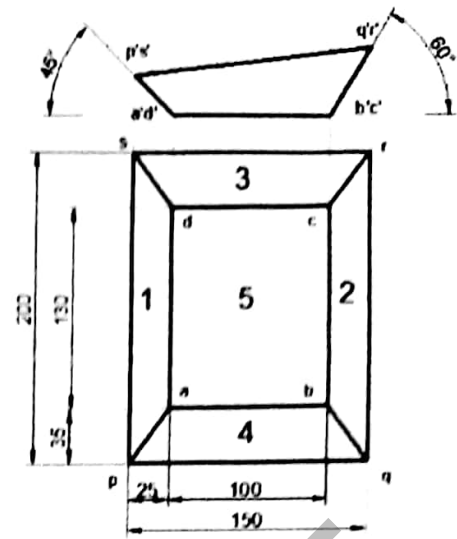

Fig 2
- VII. Two views of a tray made of sheet metal are shown in Figure 2. Develop all the surfaces of the tray.